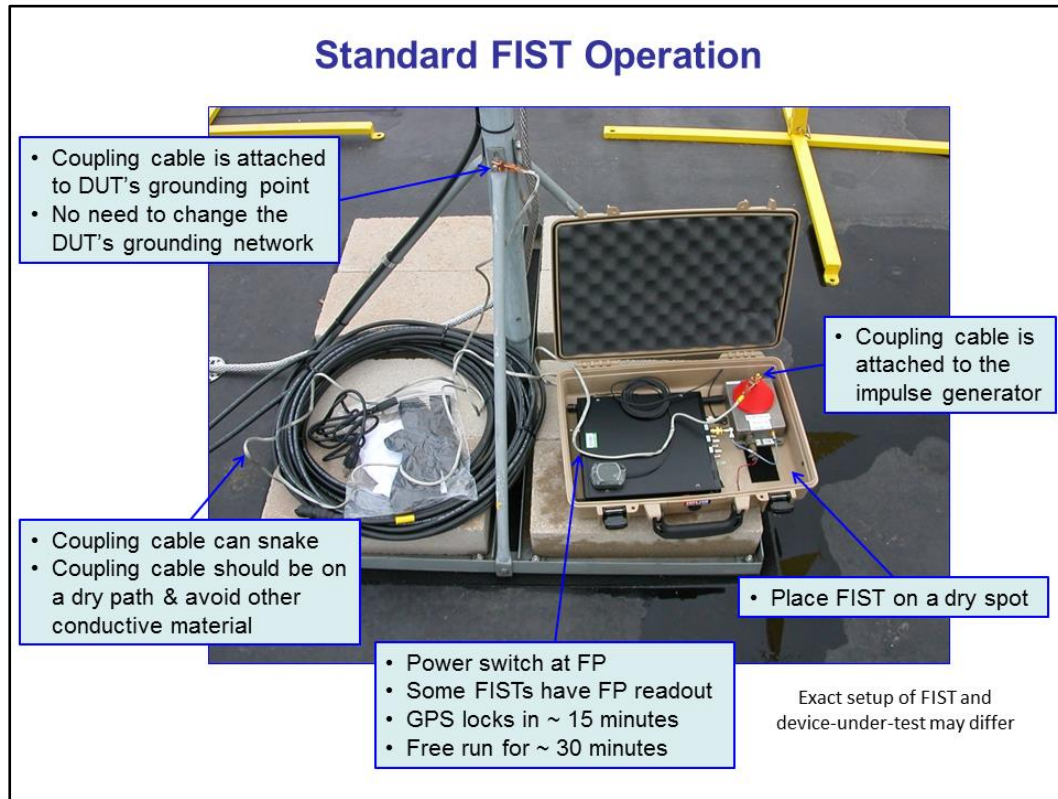

Figure 2. Typical FIST operation configuration.
- 4.1.2. Place the FIST case flat and open as shown in figure 2.